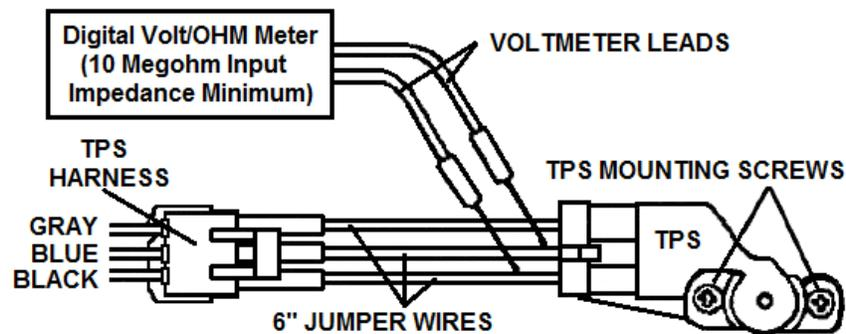

Figure 4
13. To adjust the TPS, attach a digital volt/ohm meter as shown in Figure 4. Turn the key to the "RUN" position with the engine off. Then, loosen the two screws holding the TPS to the throttle body and rotate the sensor until .65 volts is achieved (**Figure 4**).